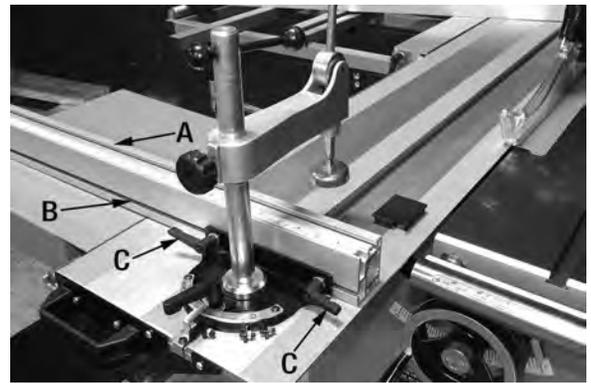

FIGURE 40
2. Remove the plastic end cap on the right end of the cross cut fence (A) Fig.40. Slide the t-slot (B) of the short cross cut fence over the hold-down bar. Secure the cross cut fence with the two lock handles (C).